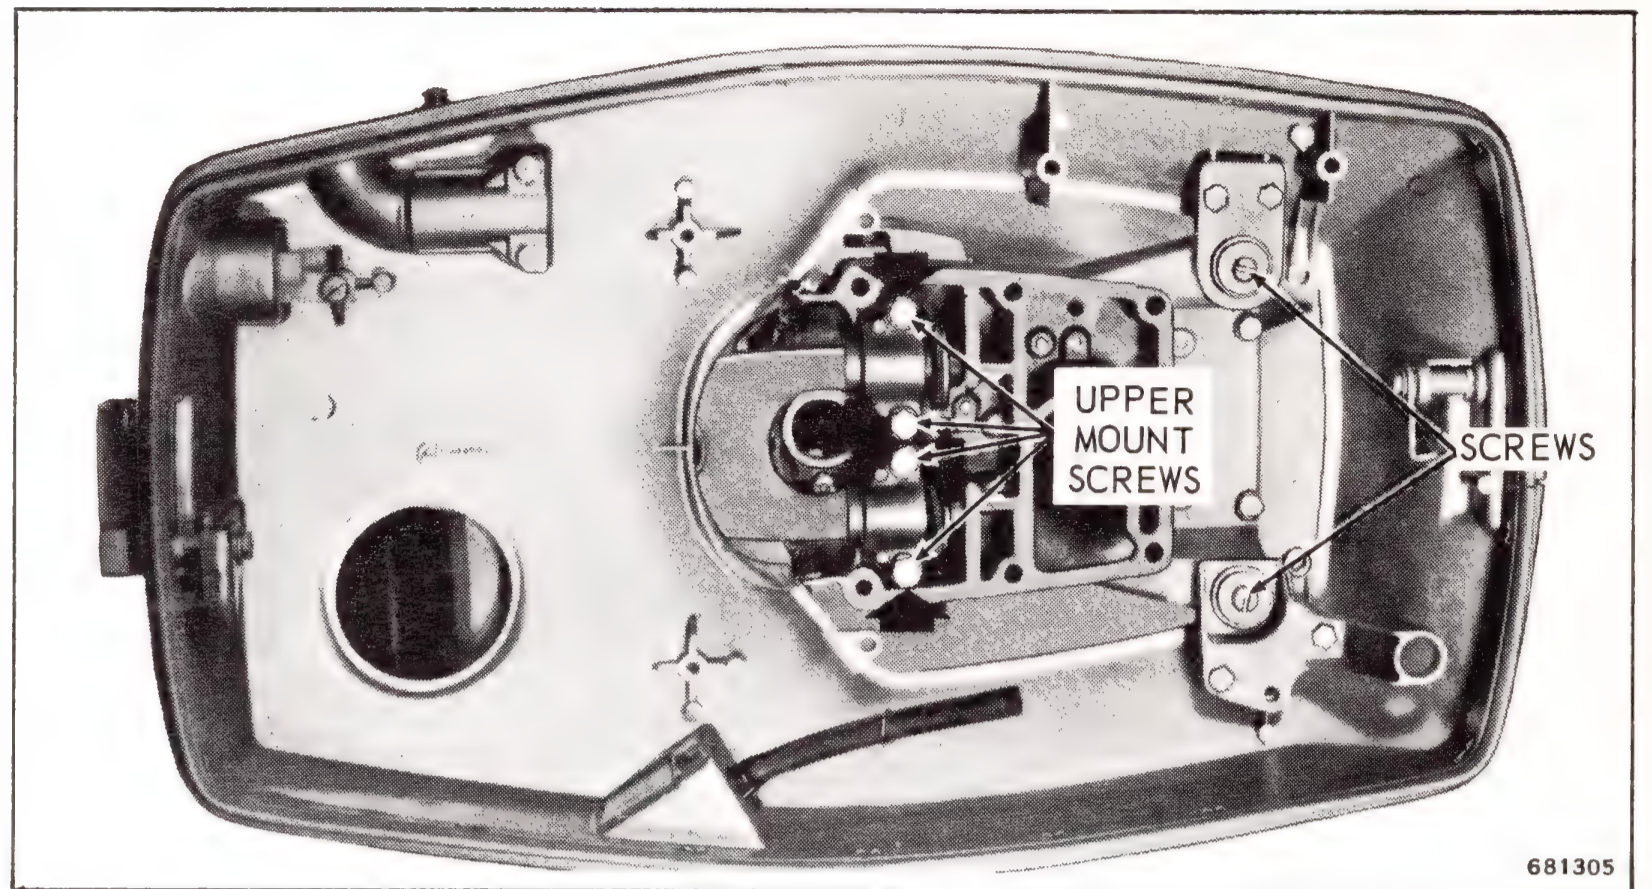

Figure 6-11. Lower Motor Cover Screws
- b. Remove two screws retaining lower motor cover to exhaust housing adapter. See Figure 6-11. Remove lower motor cover assembly.
c. The exhaust housing and adapter assembly, which carries the power head, is rubber mounted to the swivel bracket assembly. To release the exhaust housing, remove port and starboard lower mount covers. See Figure 12. Remove rubber mount bolts, two each port and starboard. See Figure 10. Remove upper mount screws (see Figure 6-11), and remove exhaust housing and adapter assembly.